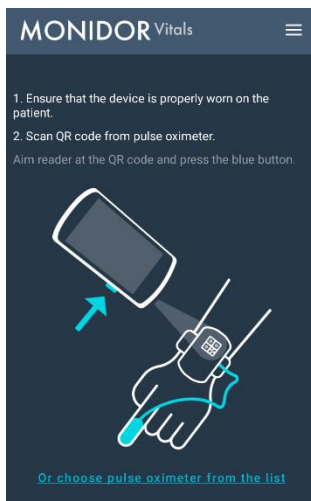
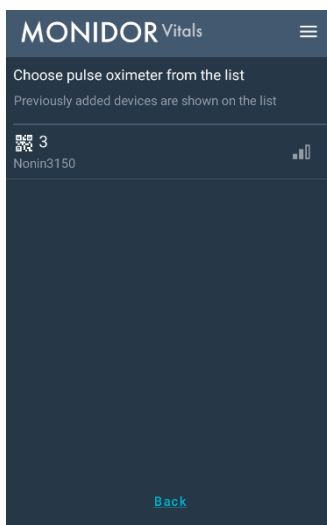

Figure 2 Connecting the access point to the pulse oximeter by scanning the pulse oximeter QR code.
Figure 3 Connecting the access point to the pulse oximeter by selecting from the list.
2. Connect the pulse oximeter to the access point by scanning the pulse oximeter QR code (Figure 2) or by selecting from the list (Figure 3). The QR code is scanned using the barcode reader function on the access point device by pressing the blue button on the side of the device. The blue button can be found on both sides of the device, and the barcode reader is activated by pressing either one.